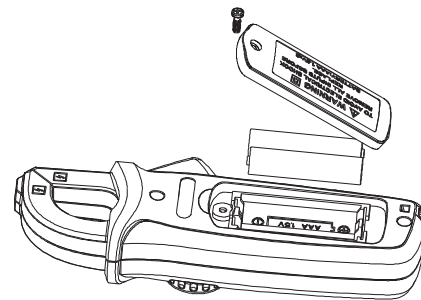

Figure 5
2.Replace battery (see Figure 5)